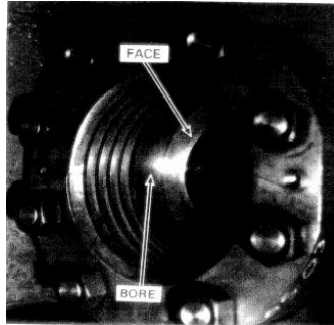

Figure 4-19 Liner bore
2. Clean the liner bore and face of the fluid end. (Figure 4-19).